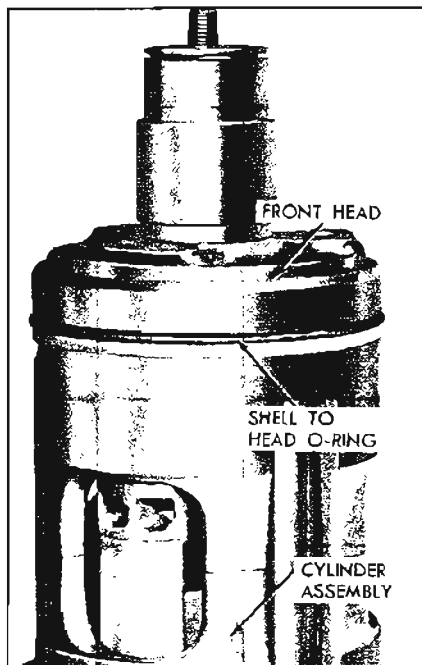

Figure 11-101—Shell to Head O-Ring Installation
47. Place new shell to head "O" ring on shoulder of front head (see Figure 11-101) and liberally coat "O" ring and front head